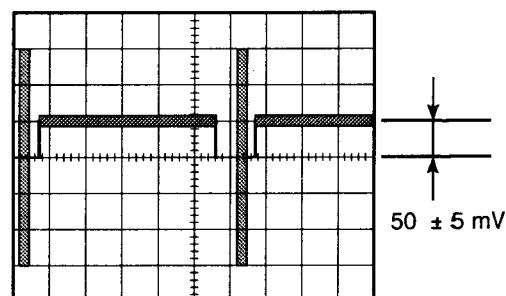

Fig. 5-34
- Confirm that the Pedestal level becomes 50 ± 5 mV as shown in Fig. 5-34.
- If not, adjust data with the **ARROW** keys so that the Pedestal level becomes 50 ± 5 mV as shown in Fig. 5-34.